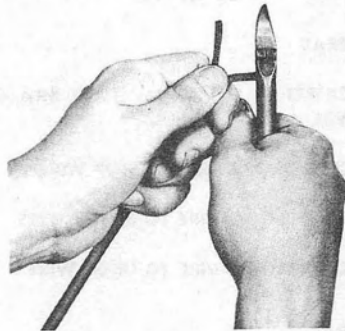

Fig. 3—Crushing Insulation
- (3) Crush the 15/16-inch length of insulation between the handles of diagonal pliers (Fig. 3).